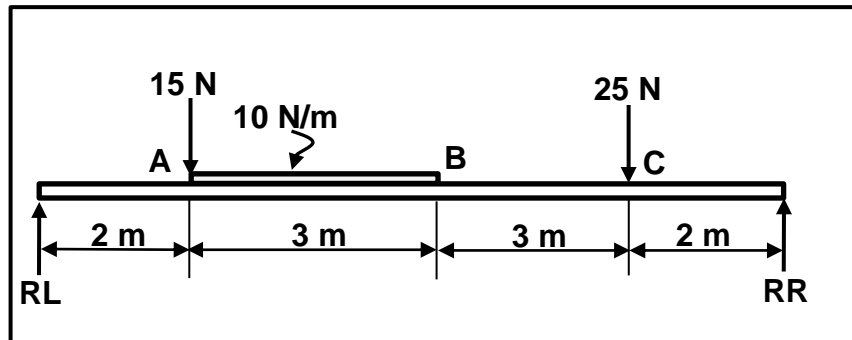

FIGURE 7.3
- 7.3 FIGURE 7.3 shows a beam of 10 metres long, supported by two vertical supports, **RL** and **RR**. Two vertical point loads, 15 N and 25 N, are exerted onto the beam. A uniformly distributed load of 10 N/m is exerted over a length of 3 m. Answer the questions that follow.